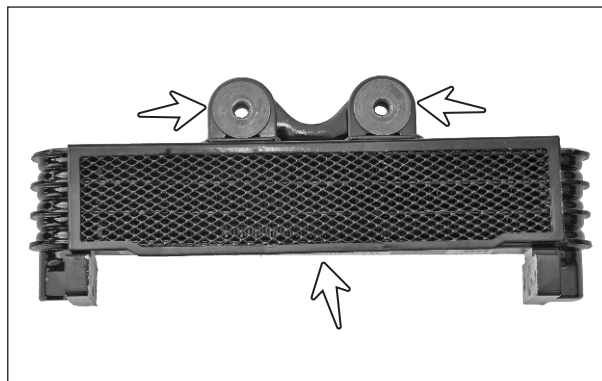

Fig. 2.61
- Gently dislocate the guard oil cooler along with cup washers from the oil cooler assembly. (Fig. 2.61)